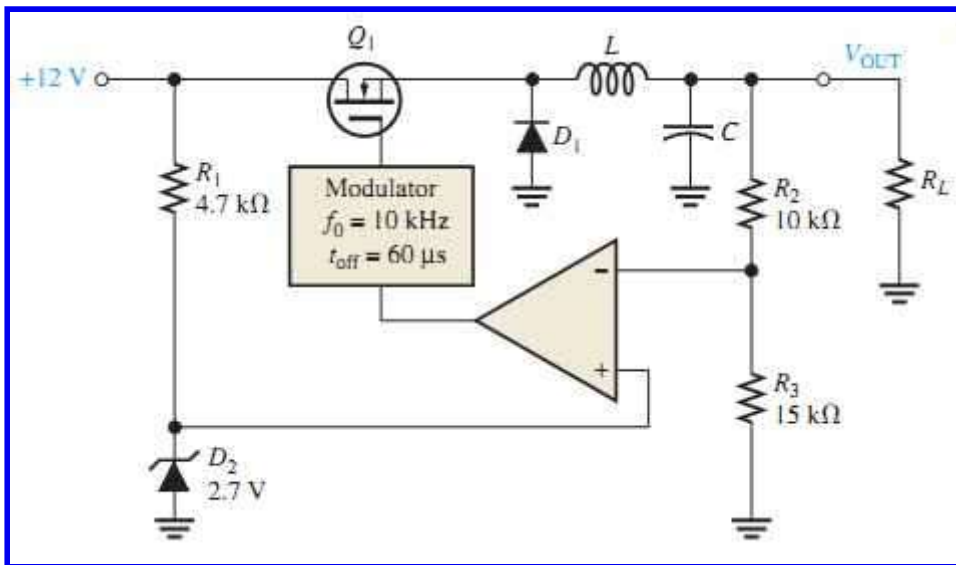

FIG. 49
16. A basic switching regulator is shown in FIG. 49. If the switching frequency of the transistor is 10 kHz with an off-time of 60 u-s, what is the output voltage?